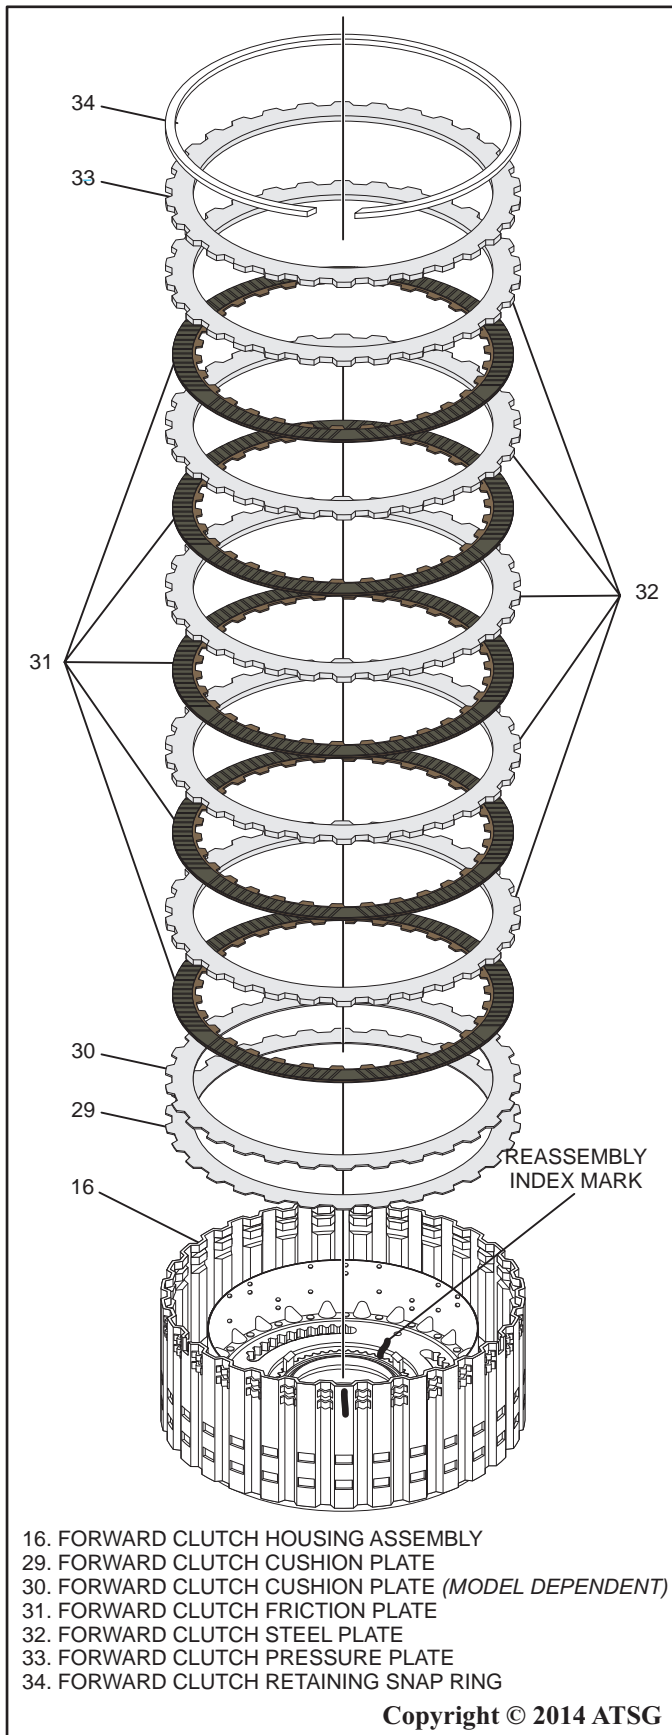

Figure 84
30. Remove the forward clutch retaining snap ring, the friction plates, the steel plates and the cushion plates as shown in Figure 84.
31. Make a painted index mark across the forward clutch drum and the forward clutch balance piston as shown in Figure 84. This index mark will be used for correct reassembly.